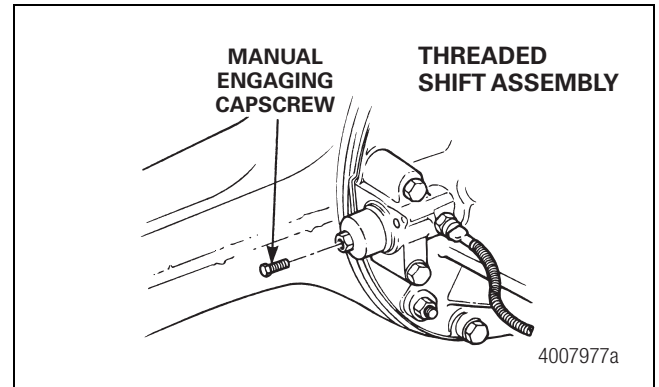

Figure 11.2
- C. Install the manual engaging cap screw into the threaded hole in the center of the cylinder. Figure 11.2.